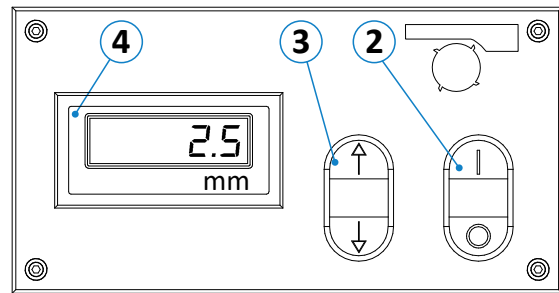

Figure 33: Operation "planing & jointing"
- The chip removal is set via button (3), see ⇒ Figure 33.